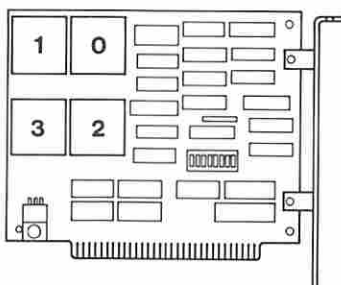

Figure 13. 256KB Memory Expansion Option
- Refer to Figure 13 and find the failing module identified by the first character of the error code.